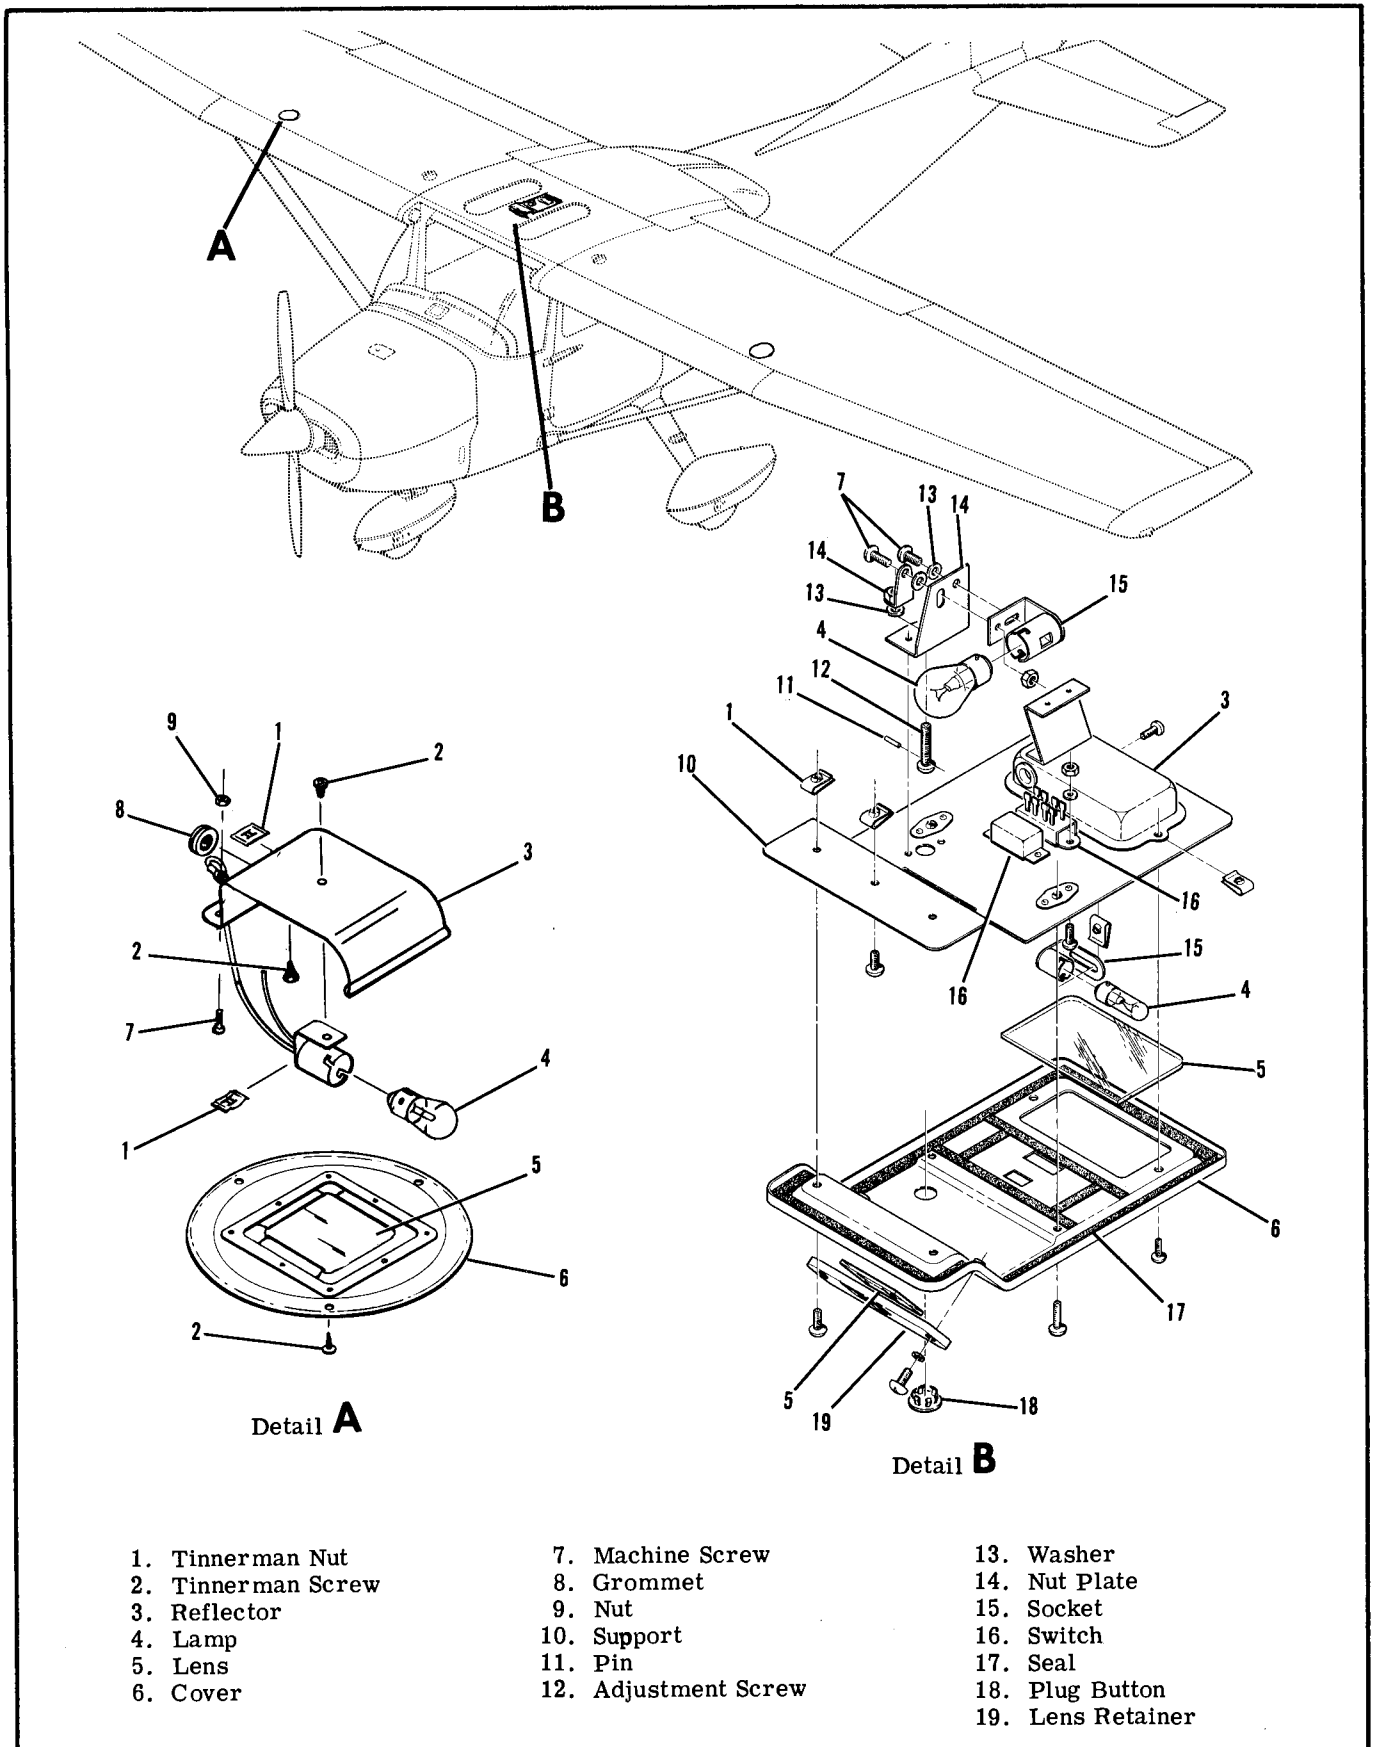

Figure 16-8. Instrument, Dome and Courtesy Light Installation.
**16-66. REMOVAL AND INSTALLATION.** For removal and installation of instrument and dome light, refer to figure 16-8.
**16-69. REMOVAL AND INSTALLATION.** For removal and installation of the courtesy lights refer to figure 16-8.